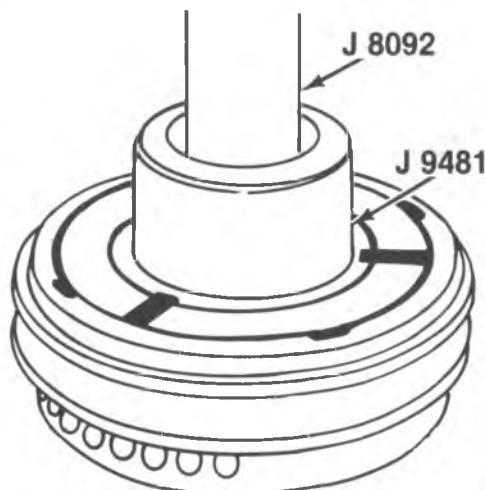

Figure 10—Installing the Pulley Bearing
1. Bearing (5) to the pulley (6) with J 8092 and J 9481-A (figure 10).
2. Retainer ring (4) to the pulley (6).
3. Pulley (6) and bearing (5) to front head (16) with J 8092 and J 9481-A.
4. Retainer ring (4) to pulley (6) and bearing (5).
5. Pulley retainer ring (3) with J 6435.